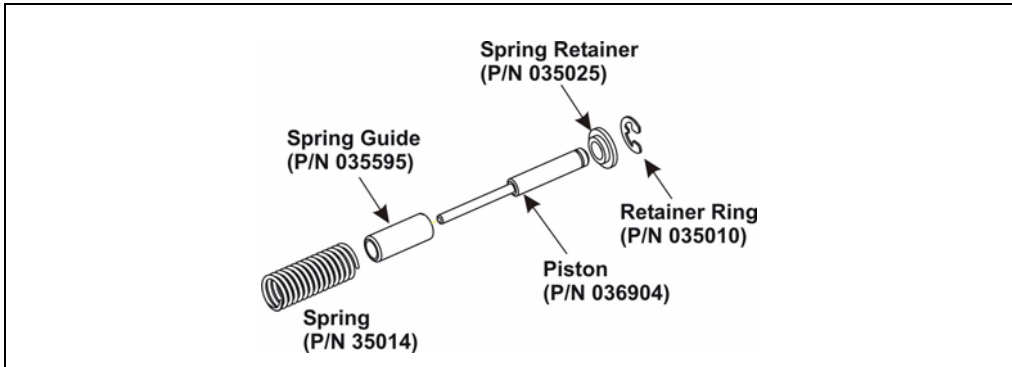

Figure 5-8. Piston Assembly
12. Remove the spring, spring guide, piston, spring retainer, and retainer ring from the pump housing (see Figure 5-8). Inspect the interior of the housing for liquid and corrosion. Clean up any spills and carefully clean any signs of corrosion from the interior of the housing.
6. Remove the piston guide, spring, spring guide, spring retainer, and piston by pulling them straight out, away from the pump housing (see Figure 5-8).